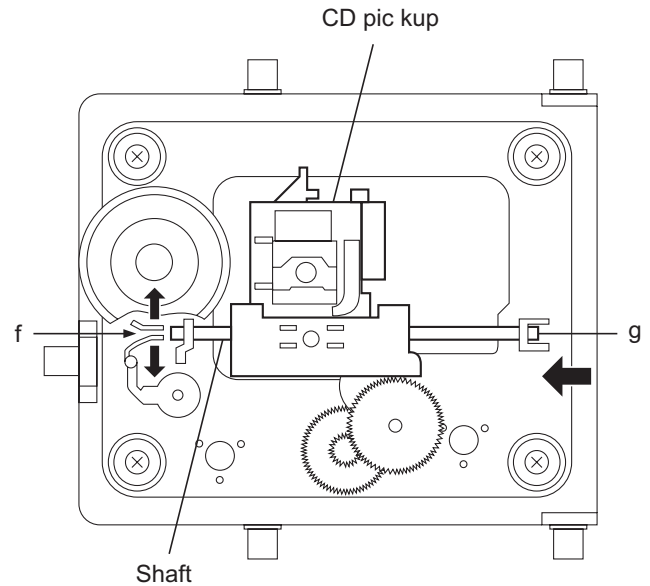

Fig.16
3.1.9 Removing the CD pickup (See Fig.16)